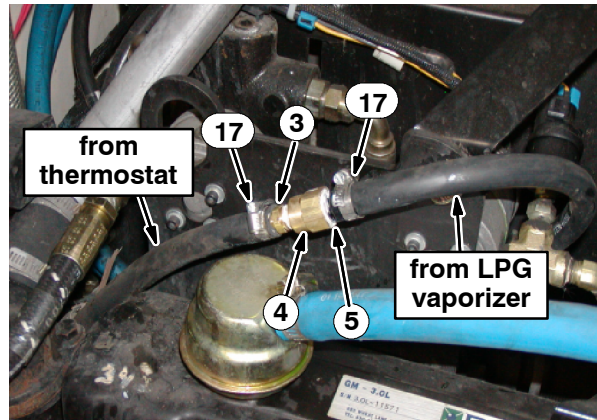
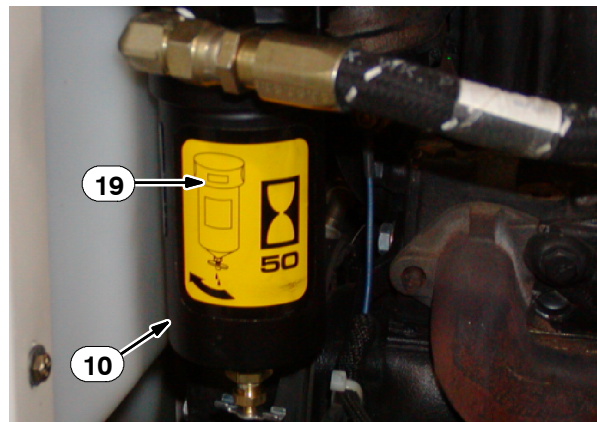

FIG. 22
FIG. 23
49. Use a hose clamp (17) to connect the loose end of the hose from the engine thermostat to the the brass straight fitting (3) attached to the brass reducer (4). Refer to Fig. 22.
51. Use another hose clamp (17) to connect the loose end of the hose from the LPG vaporizer to the the plastic straight fitting (5) attached to the brass reducer (4). Refer to Fig. 22.
53. Use cable ties (18) to secure loose hoses that could potentially inhibit machine operation.
54. Install the filter drain label (19) onto the LPG fuel filter (10). Refer to Fig. 23.